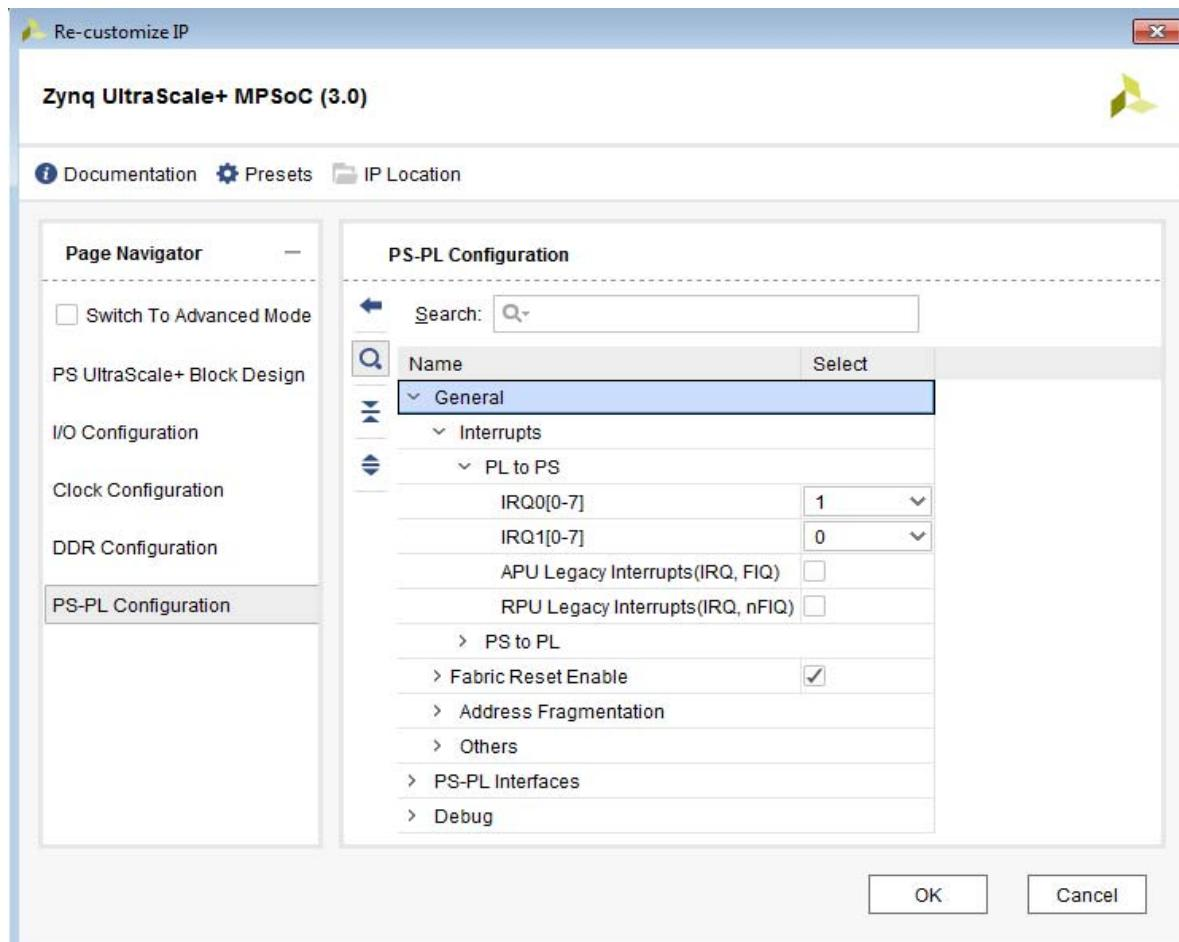

Figure 6-6: Selecting PL to PS Interrupt
1. Double-click the **Zynq UltraScale+ IP Block**, and select a PL-PS interrupt as shown in Figure 6-6 (Ignore and move to the next step, if this is selected by default).